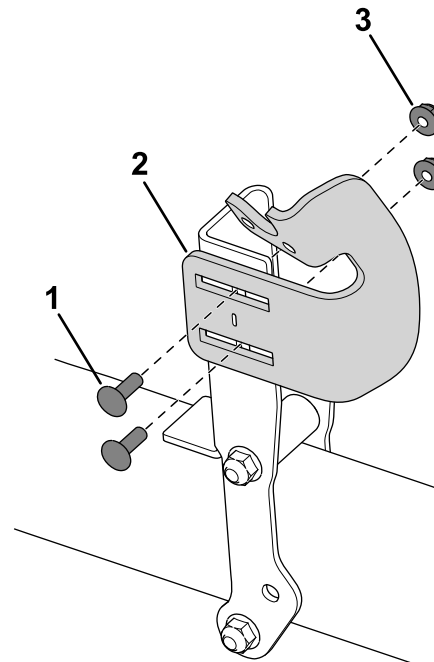

Figure 7
2. Use 2 carriage bolts (1/4 inch) and 2 flange nuts (1/4 inch) to secure the lower adjustment plate to the mount bracket (Figure 7).